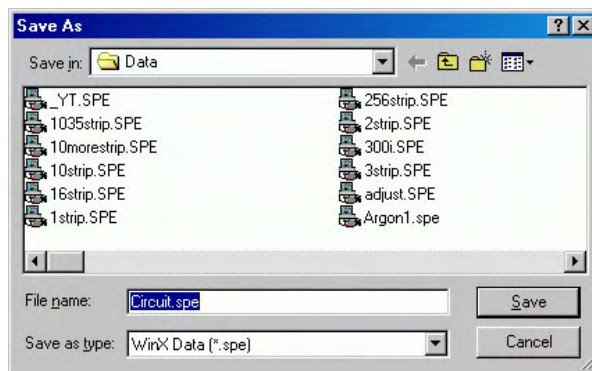

Figure 39. Data File Save As dialog box
1. Select **Save As** from the File menu. The Data File Save As dialog (Figure 39) appears.